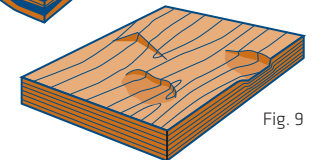

Fig. 9
**Dents, Gouges and Depressions** - Dents can indicate internal structural damage. Dropping the plank or impact from heavy objects on the plank will dent the plank. Remove the plank from service and visually inspect the plank before reuse. (Fig. 9)